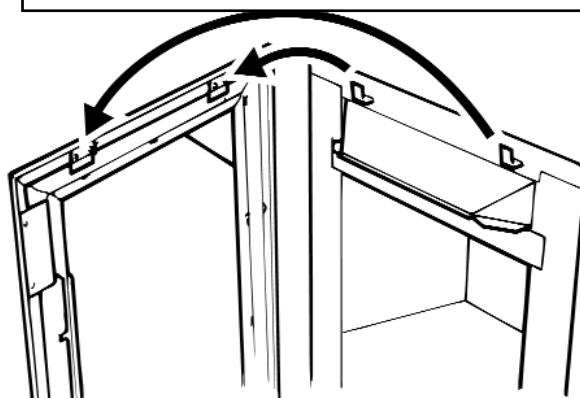

Figure 43. Fascia top location
4. Carefully lift the fascia unit upward to clear the upper retaining brackets on the hotbox (See figure 43). Pull the fascia clear and place carefully aside.